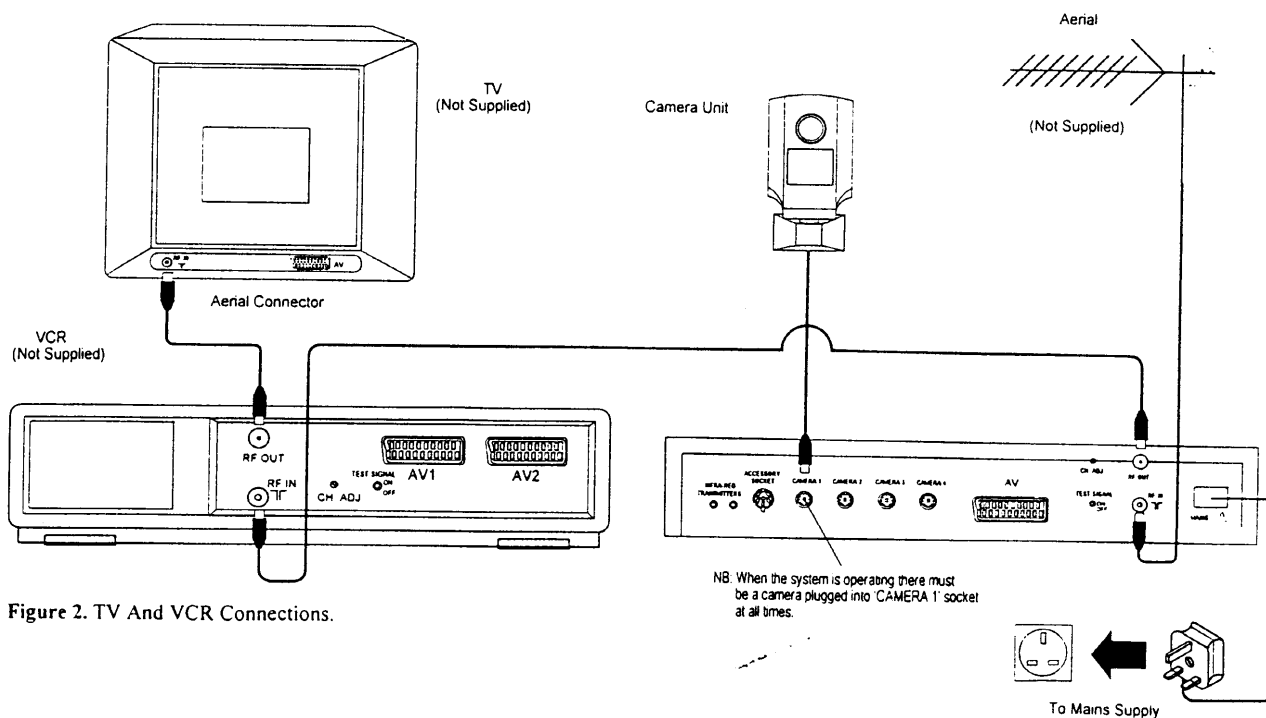

Figure 2. TV And VCR Connections.
- Step 1. Remove the aerial lead from the VCR aerial socket (RF IN) and connect it to the 'RF IN' socket at the rear of the Control Unit (see figure 2).